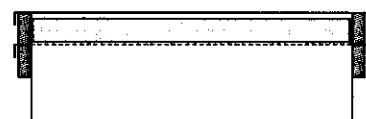

Fig. 2A — COBRA Energy Recovery Unit Full-Perimeter Roof Curb — 48/50HJ004-007 with 62AQ060,100
3. The Energy\$Recycler section of the full-perimeter curb must be watertight. See Fig. 2A and 2B.